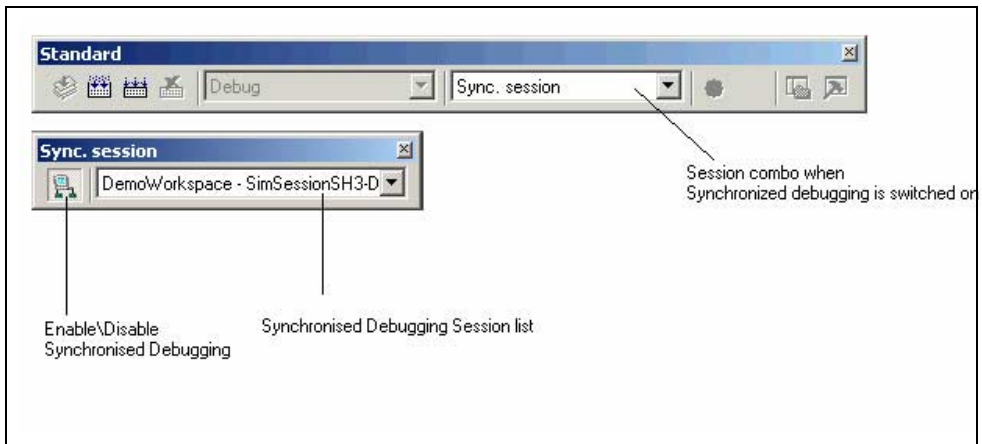

Figure 4.114 Synchronized debug toolbars
2. Click on the session combo-box located on the standard toolbar. Select the Synch. Debug selection. This is shown in figure 4.114. This option is only available when synchronized debugging has been added to the system.
3. Once selected the HEW debugger enables the Synchronized debugging facilities. This means the addition of another toolbar named Sync. session. This can also be viewed in Figure 4.114.